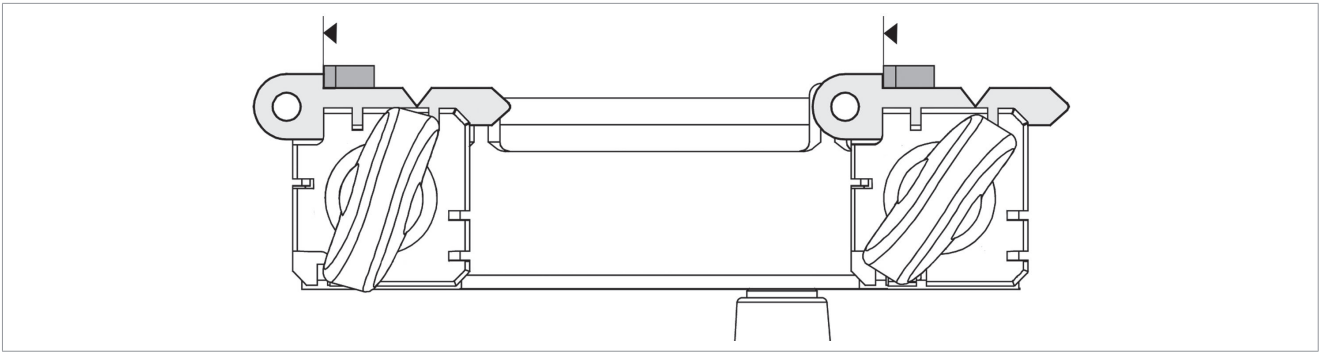

Fig. 20
- 1) Turn off the machine with motor switch (T), turn off main power switch (N), close the switch protection cover (N1) and check that it IS NOT connected to the battery.
- 2) Place the adjustment keys (provided) on the clamps (Fig. 20).
- 4) Turn the shoulder gauge rod towards the operator so that the gauges (Q1) are in contact with the adjusting plates (Fig. 20).